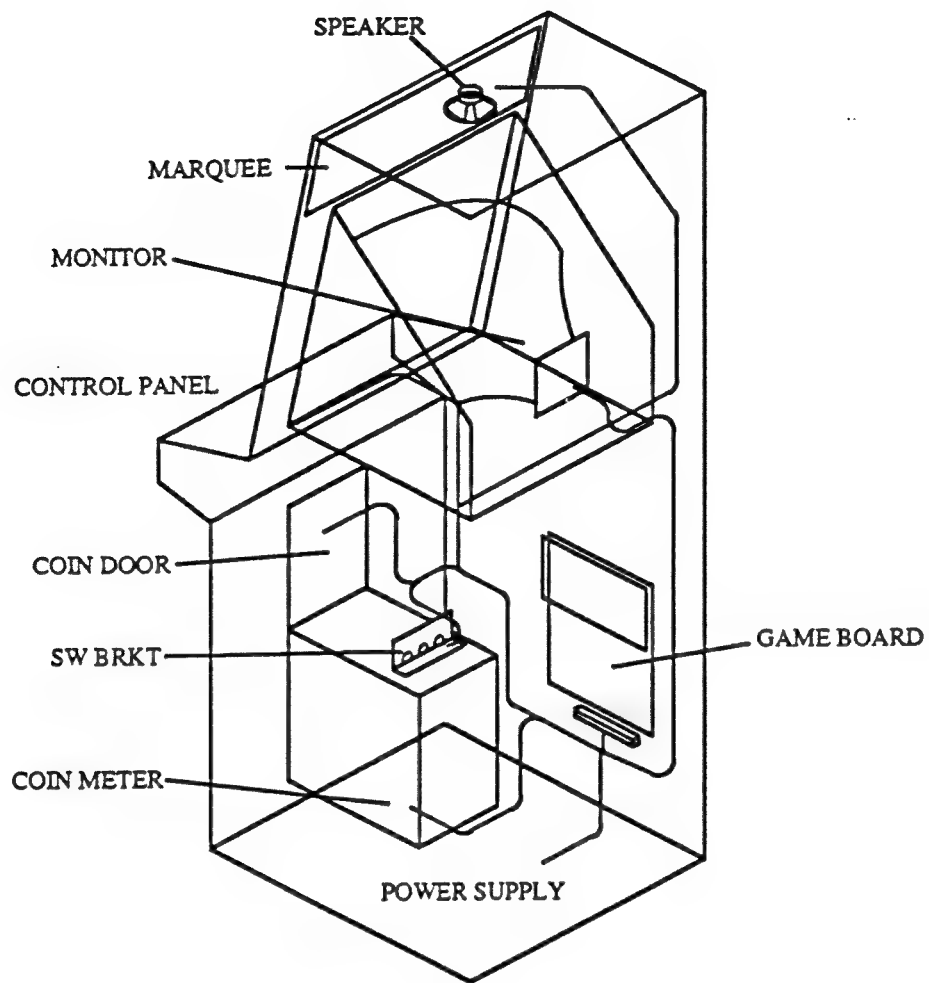

FIGURE 5
29. Install the logic PCB inside the cabinet (see figure 5). Use wood screws to secure the PCB through its' mounting feet.